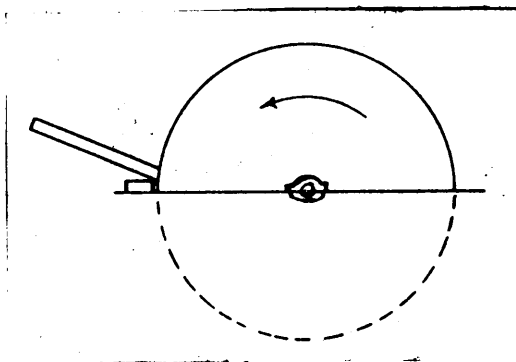

Figure 2.
2. Place a piece of iron pipe in the same position as you did the file. (Figure 2). Turn the stone. This will smooth the stone. The pipe should be moved back and forth across the stone to obtain an even and smooth surface. Ordinarily the pipe is sufficient without the file.